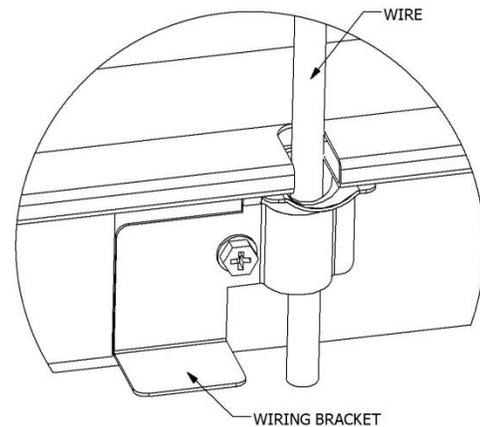

FIG. 3 - FAN WITH LIGHT
4. For a damper used with a fan equipped with a grille light, route the wire from the grille through the notch on the damper frame. Use the supplied bracket to secure the wire to the damper frame. Attach the bracket to the frame as seen in FIG. 3 using one of the supplied #8-18 screws.